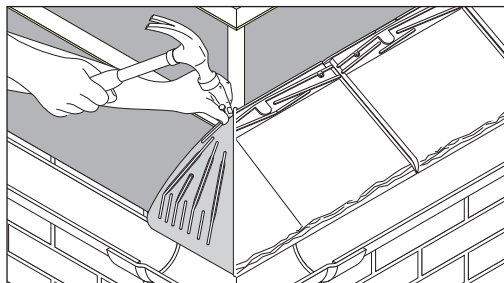

Fig 5 Nail soaker to batten
- 11 Nail soaker to batten as indicated (Fig 5).